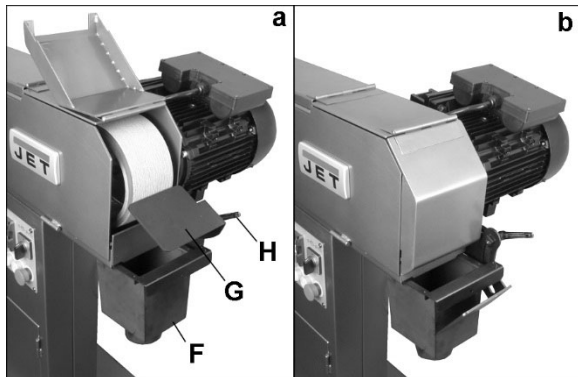

Figure 7-2
The chip boxes (see F, Figure 7-2) are located to catch swarf/chips at point of workpiece contact. The box near the jaw assembly freely slides in and out; the box beneath the wheel grinder is secured by a screw.
Adjust table (G, Figure 7-2) into position and tighten handle (H).